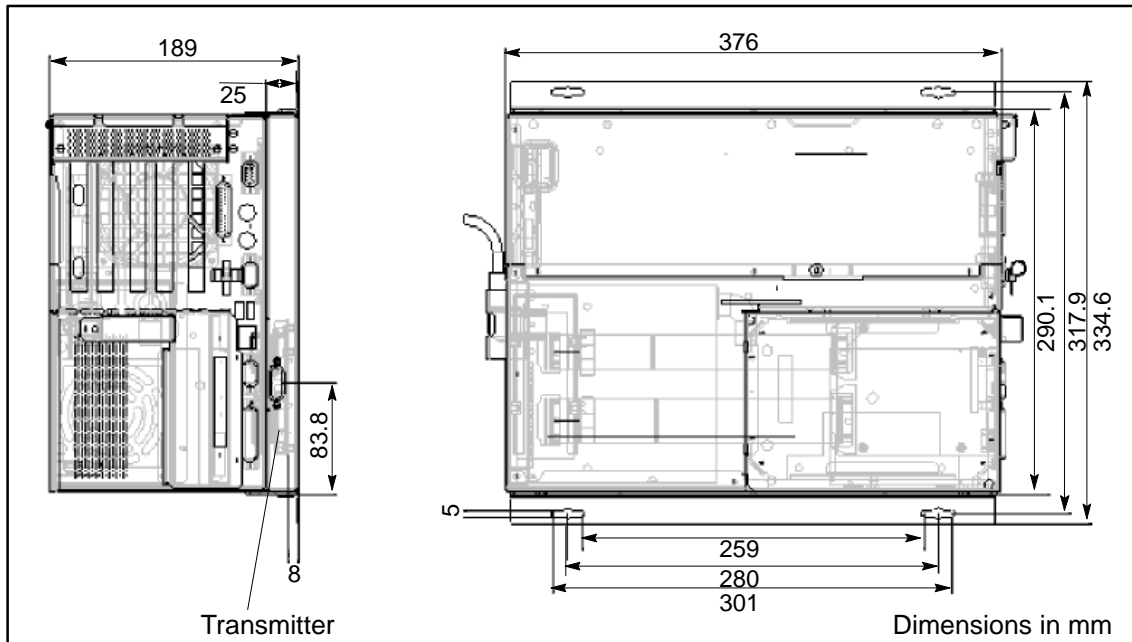

Figure 8-2 Dimensions of the PC 870 computing unit with attached transmitter
The dimensions of the PC 870 computing unit with transmitter can be seen in Figure 8-2.
- Dimensions: see Figure 8-2.